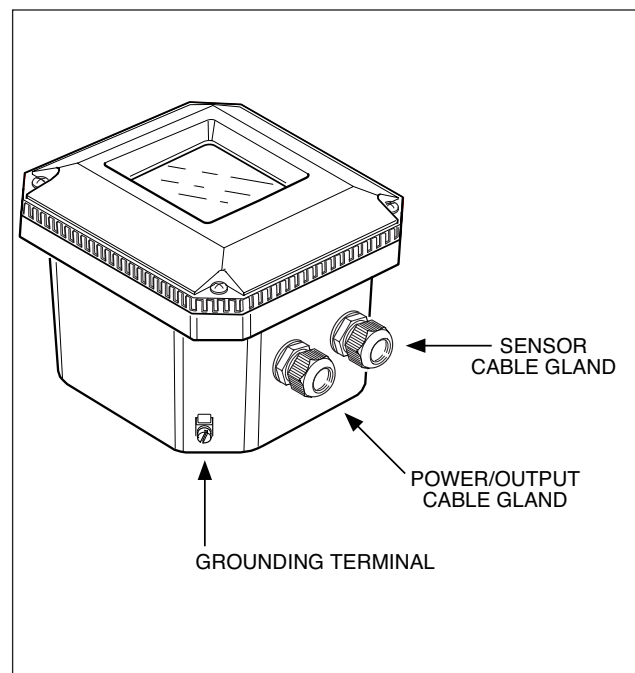

Figure 3-5. Glands to be used for cabling
4. Connect the sensor input, using the gland on the right (see fig. 3-5). Switch on the power.